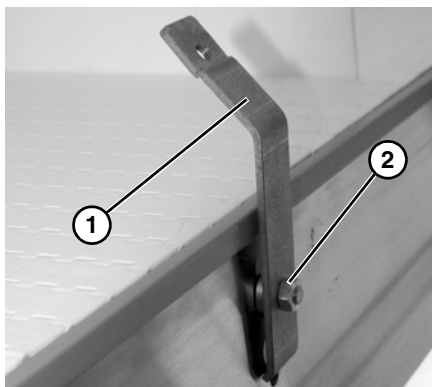

Figure 38
2. Attach the guide mounting brackets (**Figure 38, item 1**) to the conveyor with hex nuts (**Figure 38, item 2**). Hand tighten only at this time.